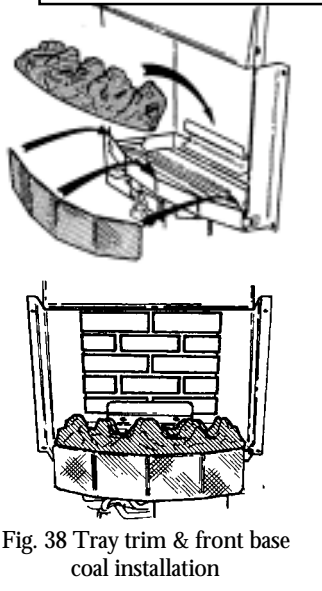

Fig. 38 Tray trim & front base coal installation
13.2 Fit the tray trim over the front edge of the burner tray. Make sure that it is pushed down fully. Place the front base coal in the burner compartment so that it rests on the ledges at the sides and front. Pull the coal forward so that it is immediately behind the front rim of the burner compartment. (See figure 38).